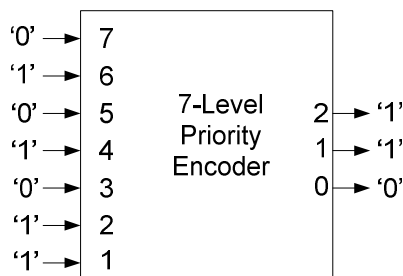

Figure 1. A block diagram of a 7-level priority encoder.
3. Implement a 7-level priority encoder using a WHEN/ELSE statement. The block diagram for a 7-level encoder is shown in Figure 1. The circuit must encode the address of the input bit of the highest order that is active. For example, if the input bits are “0101011”, then the output bits should be “110” as shown in Figure 1. “000” should indicate that there is no request at the input (all 0’s).